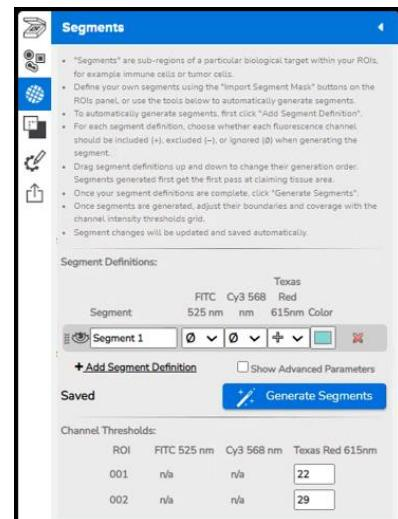

Figure 42: Generate Segments button
9. Any segment definitions existing in the source ROIs will transfer to the new scan. **To apply the transferred segment definitions**, open the **Segments** menu and click **Generate Segments** (see Figure 42). Segments can be adjusted or new ones created.